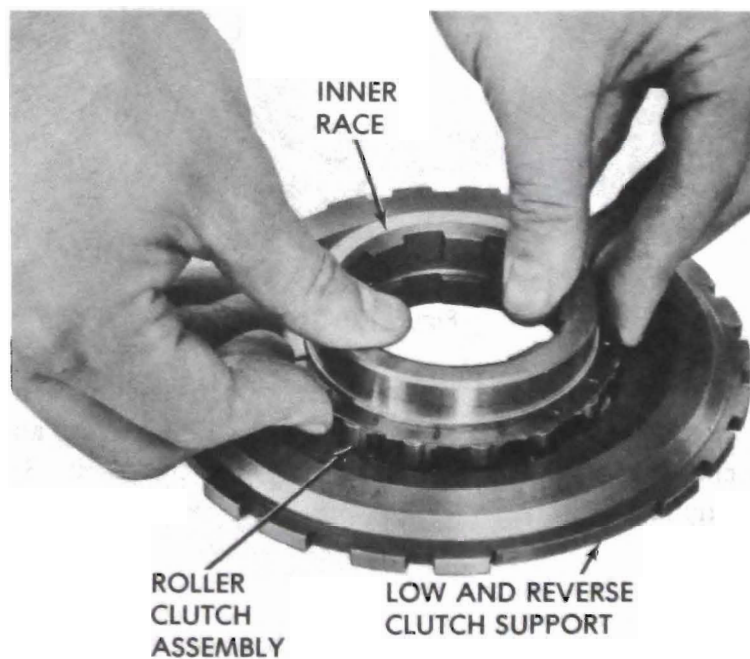

Figure 75-216
2. Install low and reverse overrun roller clutch assembly and inner race into the low and reverse clutch support. See Figure 75-216. Assemble with four (4) holes down or to rear of transmission.